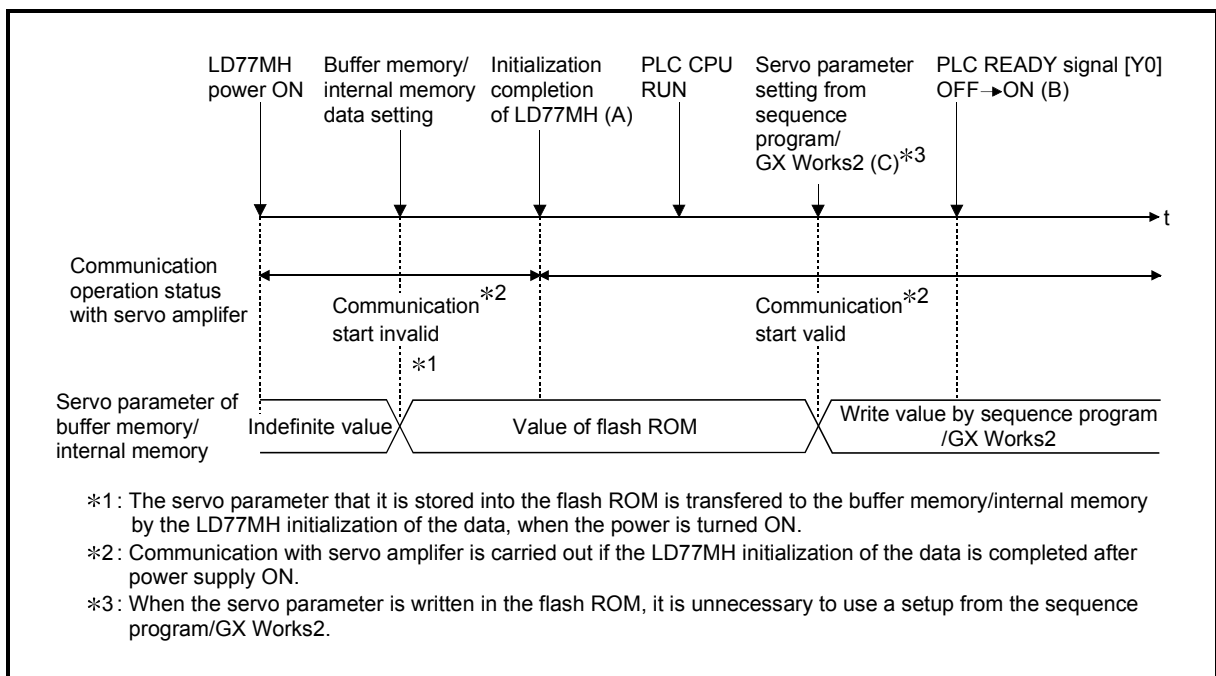

Fig. 7.1 Operation timing in the servo parameter transfer of the buffer memory
Communication start timing to the servo amplifier: Initialization completion (Fig. 7.1 A)
Communication start timing to the servo amplifier: The data written from sequence program before the PLC READY signal [Y0] ON (Fig. 7.1 B).
Transfer the servo parameter : The data written from sequence program/ GX Works2 before the PLC READY signal [Y0] ON (Fig. 7.1 C).
(2) Servo parameter transfers when servo amplifier had started after the PLC READY signal [Y0] is turned OFF to ON (Fig. 7.1 B)